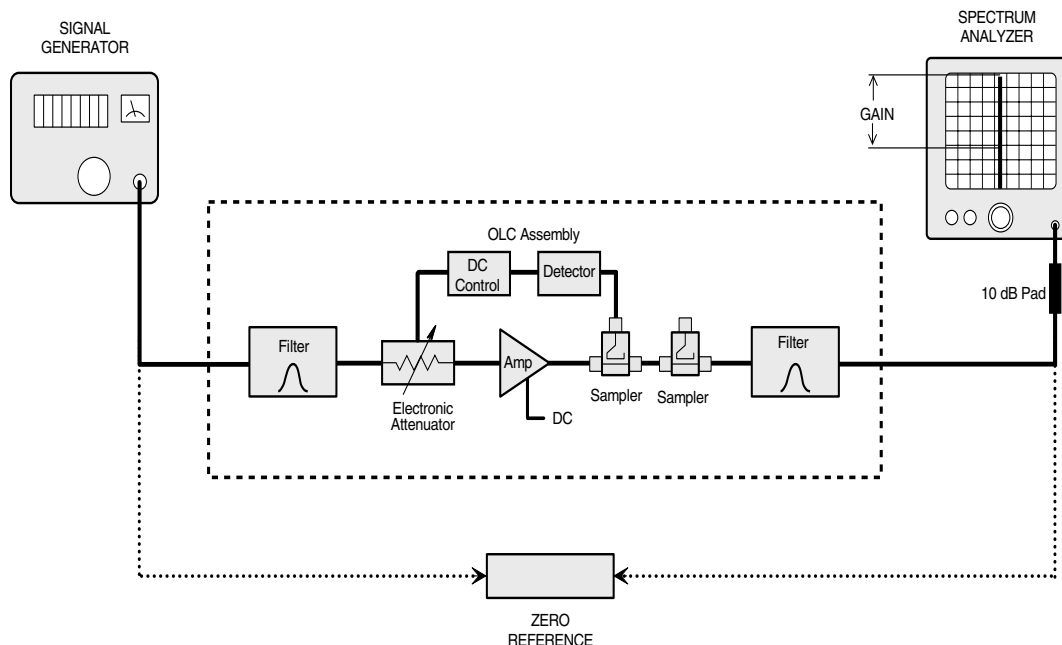

Figure 9: Test equipment interconnection for measuring signal booster gain.
- 1) Measure the gain of the signal booster being careful not to exceed the maximum input level. **Figure 9** shows this being done using a signal generator and spectrum analyzer. This is basically a substitution measurement. Record the measured values for each passband.